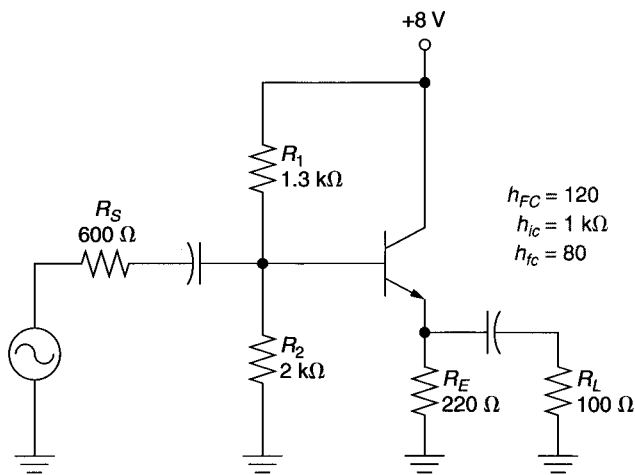

FIGURE 10.21
- Determine the values of  $V_B$ ,  $V_E$ , and  $I_E$  for the circuit shown in Figure 10.21.
- Plot the dc load line for the circuit shown in Figure 10.21.
- Determine the value of  $Z_{\text{in}}$  for the circuit shown in Figure 10.21.
- Determine the values of  $A_v$ ,  $A_i$ , and  $A_p$  for the circuit shown in Figure 10.21.
- Determine the value of  $Z_{\text{out}}$  for the circuit shown in Figure 10.21.
27. Refer to Figure 10.21. The circuit has a constant dc emitter voltage of 0 V. Discuss the possible causes of the problem.